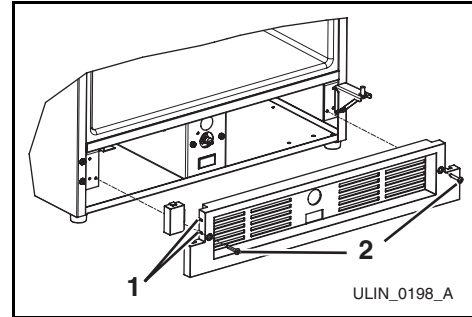

Figure 9
6. Make sure grille cap is behind grille in slots provided in grille (**Figure 9, 1**) before attaching grille to unit, and secure but do not overtighten both grille screws (**Figure 9, 2**).